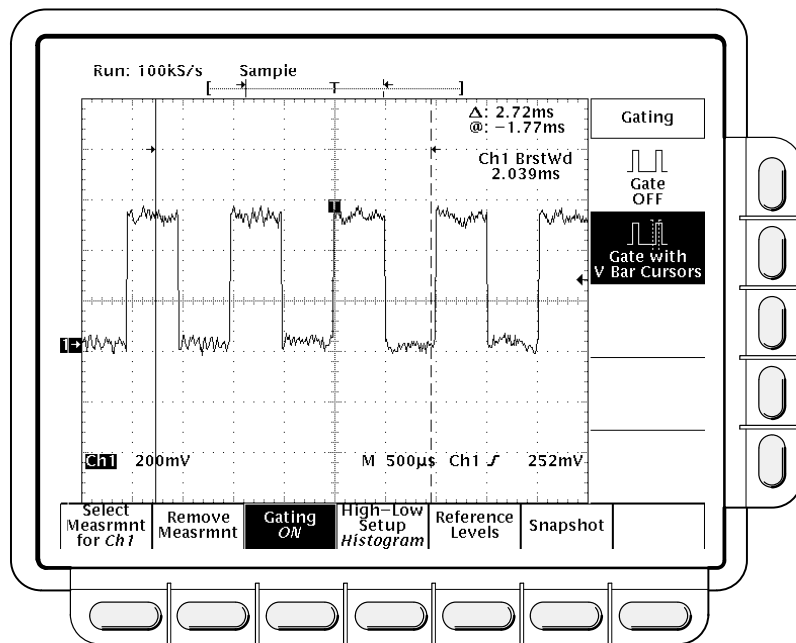

Figure 3-46: Measure Menu — Gating
1. Press **MEASURE** → **Gating** (main) → **Gate with V Bar Cursors** (side) (see Figure 3-46).